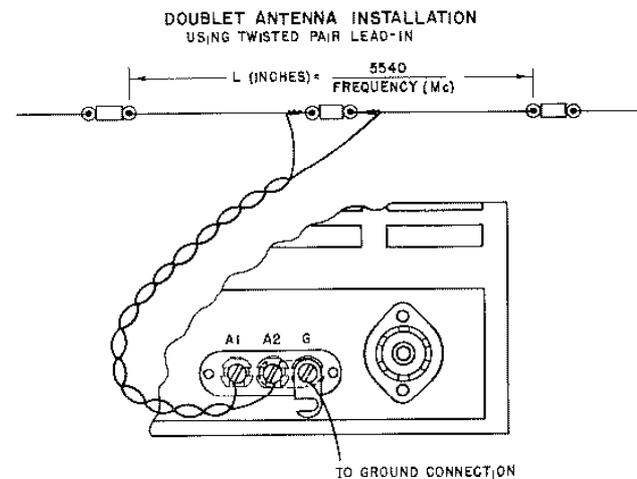

Figure 3. Doublet Antenna Installation.
A. *Single Wire Antenna.*—When using a single wire antenna installation, connect a jumper between the antenna terminal A2 and G. Then connect a single wire of about 50 to 75 feet (including lead-in) to terminal A1. Use #14 gauge copper wire or heavier for best results. Erect the antenna as high and free from surrounding objects as possible. This type of antenna works well where the signal to noise ratio is relatively high and a more elaborate installation is not practical. Refer to Fig. 3.
(1) To determine the proper length of the doublet antenna in feet:
(b) Wrap and solder the two wires of the lead-in to each of the quarter-wave sections at the insulator as shown in Figure 3.